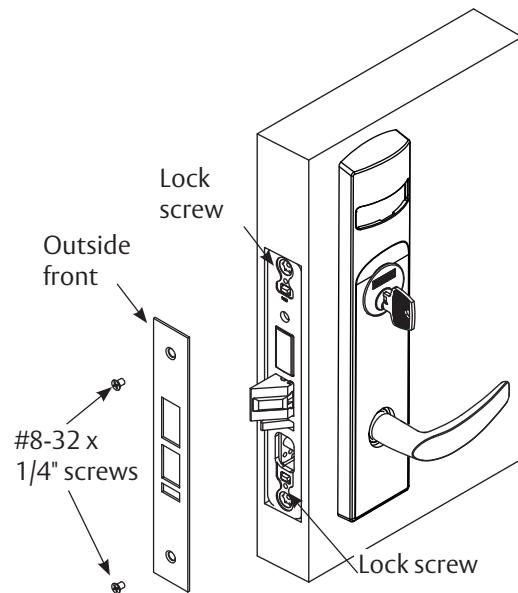

Figure 11
1. Tighten the two (2) lock screws completely. (Figure 11)
2. Attach outside front with two (2) flat head screws #8-32 x 1/4".